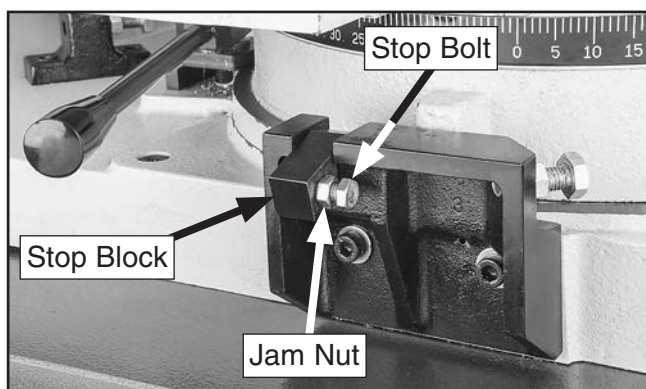

Figure 93. Flip-stop bolt and jam nut location.
- If square *does not* fit snugly against stationary jaw and blade, rotate flip-stop out to disengage it, and loosen jam nut shown in **Figure 93**. Thread stop bolt inward or outward as necessary, then re-engage flip-stop.
8. Repeat **Steps 6–7** as necessary, then tighten jam nut against stop block (see **Figure 93**) without turning stop bolt.
3. Rotate flip-stop out completely (see **Figure 93**).